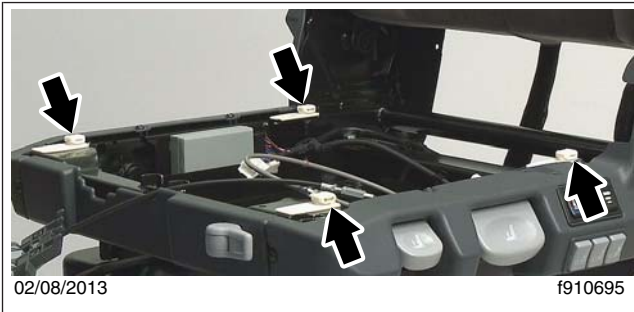

Fig. 3, Slider Tabs
3. Clean the seat cushion slider tabs; see Fig. 3.